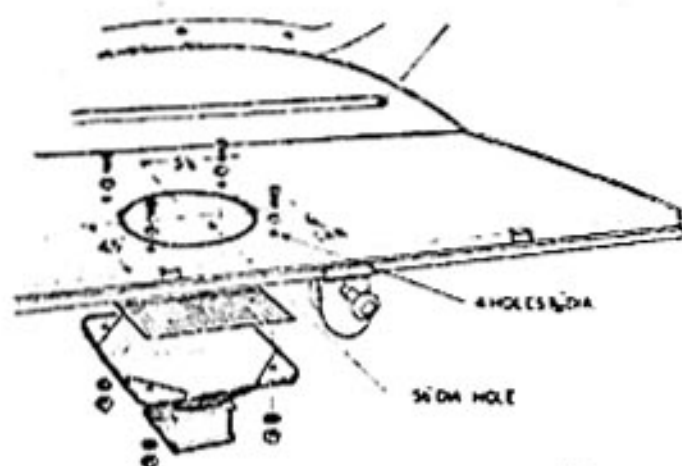

Fig. 5
1. Remove rear seat and squab. Ease back trim on rear squab shelf. Use loudspeaker card ring as template, mark out and drill four $\frac{7}{32}$ " diameter holes and $5\frac{1}{2}$ " diameter hole as shown in Fig. 5.
3. Attach loudspeaker to shelf as shown in Fig. 5., using the fixings provided.